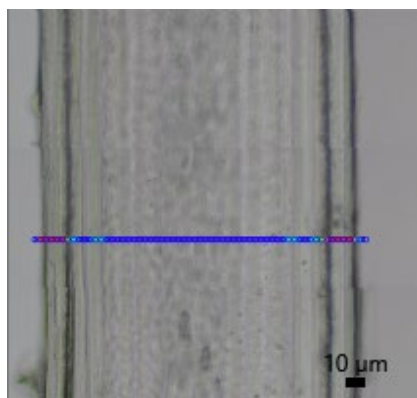
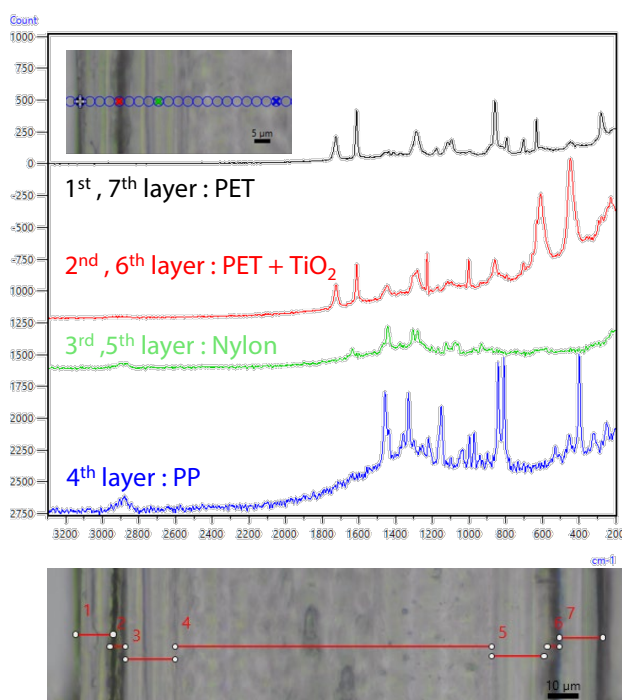

Fig. 3 Distribution of different materials according to the performed line measurement (step width 3 μm, 61 measurement points)
Fig. 4 Raman spectra and length measurements of the identified layers
A line scanning measurement was initially performed to identify the boundaries between the different materials/layers of the sample. A 100x objective lens was used with a laser spot diameter of 3 µm. Fig. 3 shows the distribution of the different materials which allowed the identification of the boundaries of the layers. By utilizing the new length measurement feature of AMsolutions, it was possible to measure the length of each layer. Moving from the outer sides to the inner part of the cross section, it was successfully identified that the outer layers are polyethylene terephthalate (PET) with an average thickness of 12 µm. The next layers, approximately 4 µm thick each, comprise a mixture of PET and titanium dioxide (TiO₂), which is commonly used in the food packaging industry. Next, two layers of nylon, approximately 16 µm thick each, were identified. Finally, the middle part was identified as polypropylene (PP) with a thickness of 105 µm (Fig. 4).